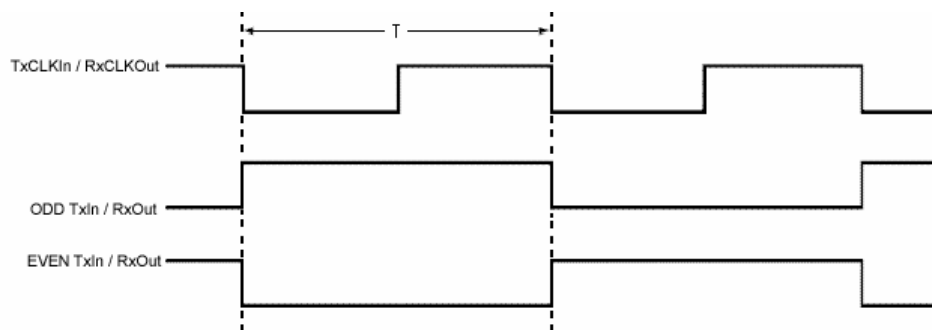

Figure 7. Worst-Case Test Pattern
| I CCWR                   | 4:28 Receiver Power Supply Current for Worst Case Pattern with Load (15) | C L =8pF, Figure 7                              | 32.5MHz |       |                 | 70    | mA |